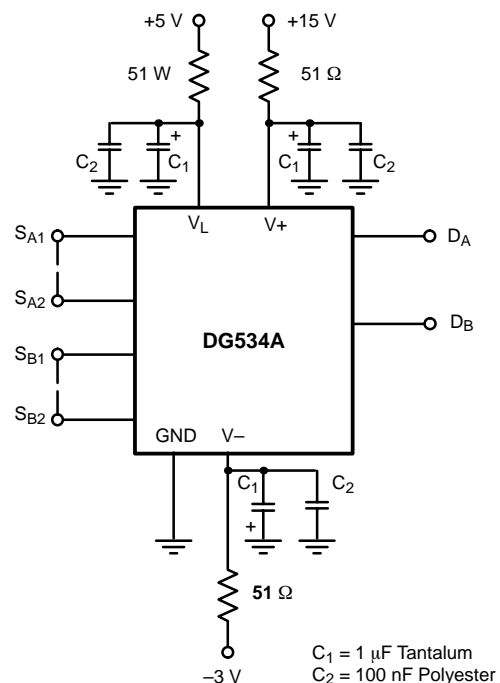

FIGURE 14. DG534A Power Supply Decoupling
- Additional high frequency protection may be provided by 51- $\Omega$  carbon film resistors connected in series with the power supply pins (see Figure 14).